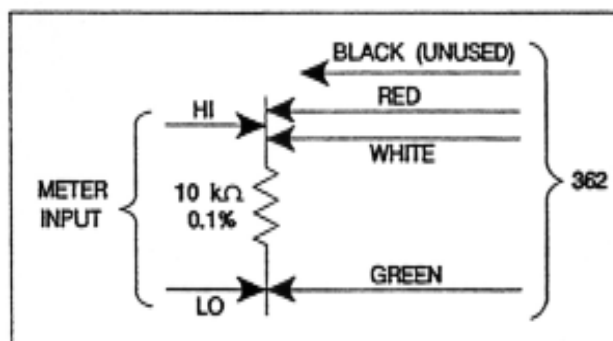

Fig. 12. Range Calibration Connections.
1. Connect the cell cable to the 10 k $\Omega$  0.1% resistor as shown in Fig. 12.
2. Connect the voltmeter across the 10 k $\Omega$  0.1% resistor as shown in Fig.12.